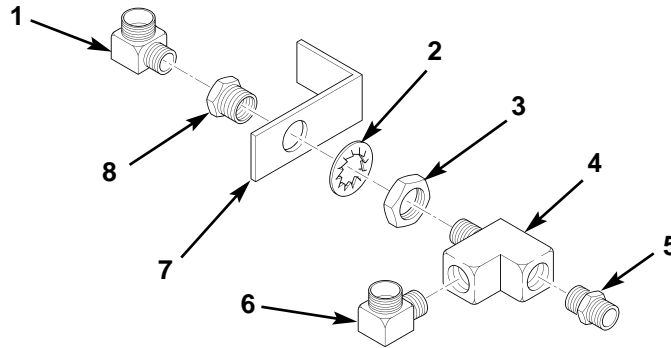

Figure 2. Disassembling Front Crossmember Air Block.
3. Remove adapter (figure 2, item 5) and elbow (figure 2, item 6) from tee (figure 2, item 4). Remove tee (figure 2, item 4) and elbow (figure 2, item 1) from bulkhead fitting (figure 2, item 8).
4. Remove nut (figure 2, item 3), lockwasher (figure 2, item 2), and bulkhead fitting (figure 2, item 8) from bulkhead fitting mount (figure 2, item 7). Discard lockwasher (figure 2, item 2).